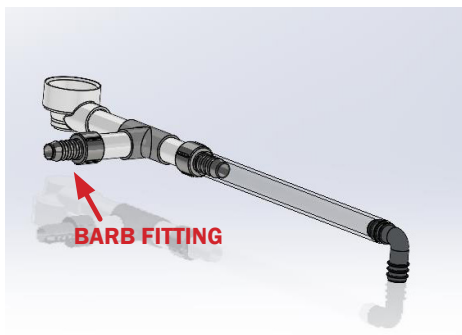

Fig. 30 Install PVC Drain Adapter
3. Install the PVC Drain Adapter to the Drain spout at the bottom of the case. Before gluing the PVC parts, ensure the barb fitting on the T-section is pointing to the rear of the case (Fig. 30).